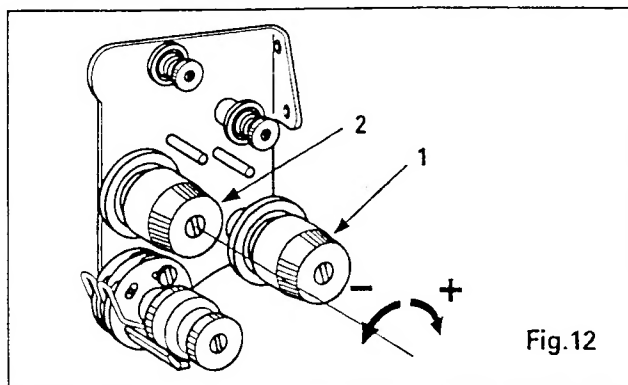

Fig.12
Turn tension regulating knob (1), as required, to regulate right needle thread tension and knob (2) to regulate left needle thread tension as shown in Fig. 12.